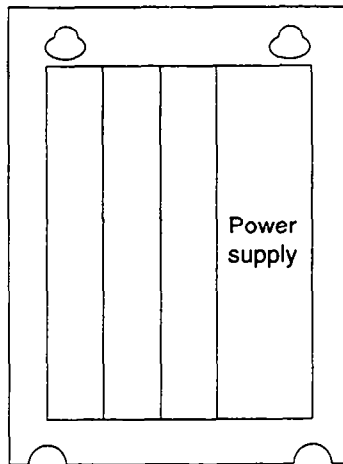

Fig.1.9 Mounting of CNC Unit
- Mount the CNC unit in the direction as shown in Fig.1.9.